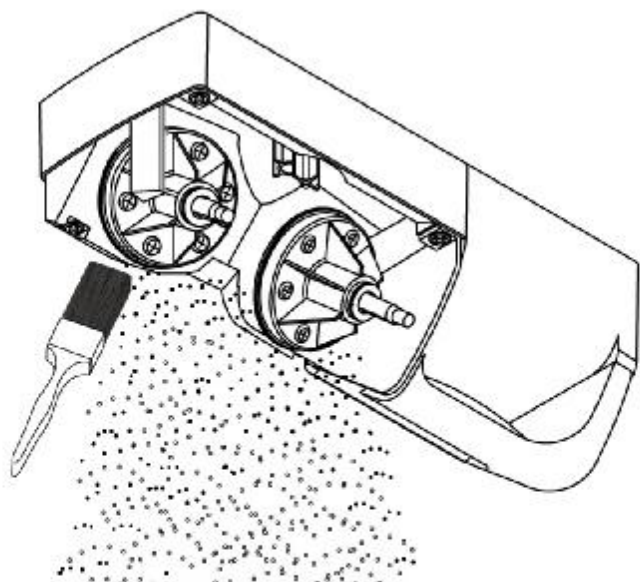

Fig. 17
- 1) **DAILY MAINTENANCE:** To clean debris loosen hand screw on bottom of unit, remove cover and remove the sharpening wheel. Shake unit upside down and brush to clean. Repeat cleaning **at least once a day or after every five uses**. (See fig 17)